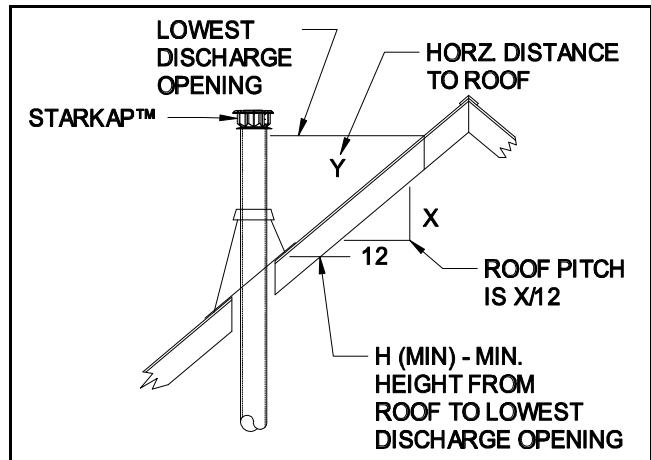

Figure 1
1. Install and secure the vertical vent, gas vent or metal chimney according to manufacturer's instructions or in accordance with NFPA 54 National Fuel Gas code or applicable local codes. The termination of the vertical vent or metal chimney MUST be installed in accordance with the height and roof pitch table (See Figure 1 or Table 1 or refer to NFPA 54 for requirements). These minimum heights may be used if the vertical gas vent is not less than 8 feet from any vertical wall. For other installations, the termination shall be not less than 2 feet above the highest point where the vertical vent passes through the roof and at least 2 feet higher than any portion of a building within 10 feet.